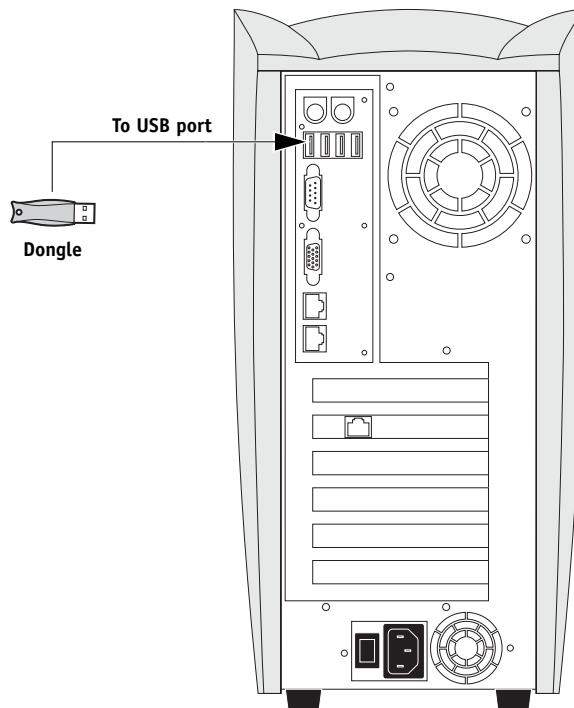

FIGURE 4-18 Connecting the dongle
-  1. **Unpack the dongle shipped with the new motherboard and connect it to an available USB port on the back panel (see Figure 4-18).**
3. If you have not done so already, connect the dongle to an available USB port on the back of the iR-M3 (see Figure 4-18 on page 4-29).